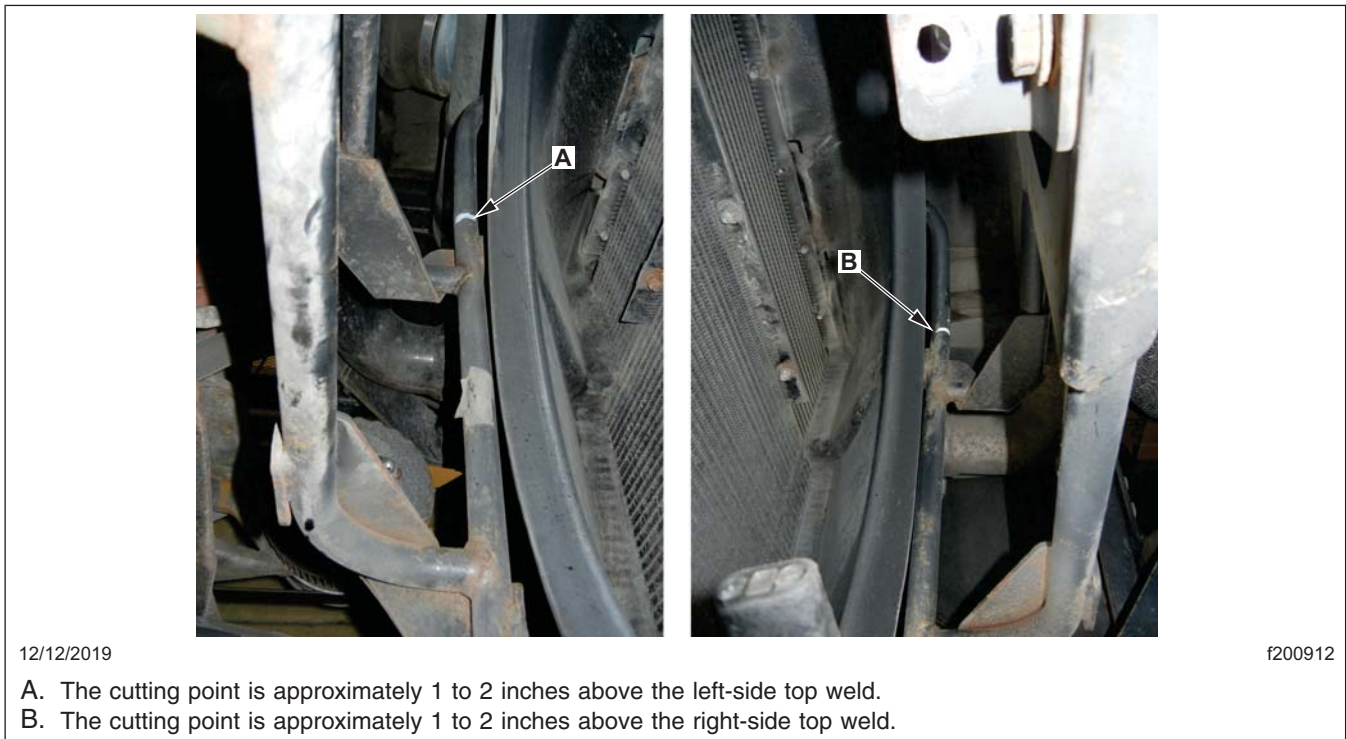

Fig. 5, Approximate Cutting Points for a Welded Fan Cage
7. Using a Sawzall®, cut the fan cage to make removal easier. For cutting points, refer to Fig. 5.